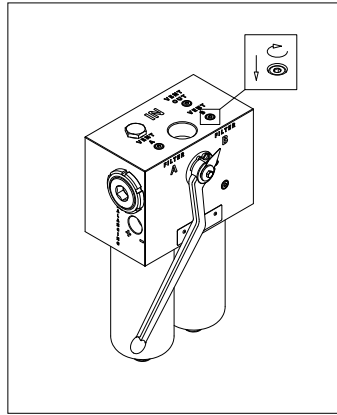

fig. 16
- (Fig. 16) Immediately screw the breather plug in